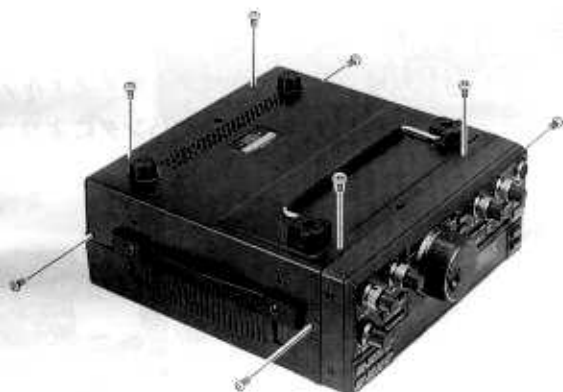

Figure 1: Bottom Cover Removal
- Place the set upside-down on the work surface with the rear facing you, and remove the eight screws affixing the bottom cover (Figure 1). Then lift the bottom cover off.